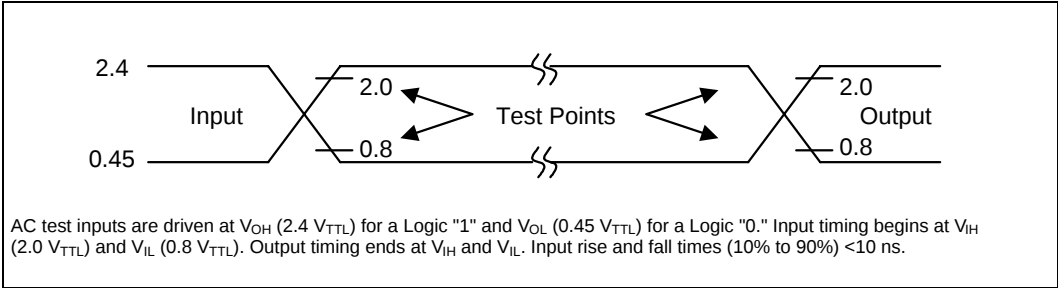

Figure 13. Transient Input/Output Reference Waveform for $V_{CCQ} = 5.0\text{ V} \pm 10\%$ (Standard Testing Configuration)
4. See Figures 13–15, *Transient Input/Output Reference Waveform for V_{CCQ} = 5.0 V $\pm$ 10%*, *Transient Input/Output Reference Waveform for V_{CCQ} = 2.7 V–3.6 V*, and *Transient Equivalent Testing Load Circuit* for testing characteristics.